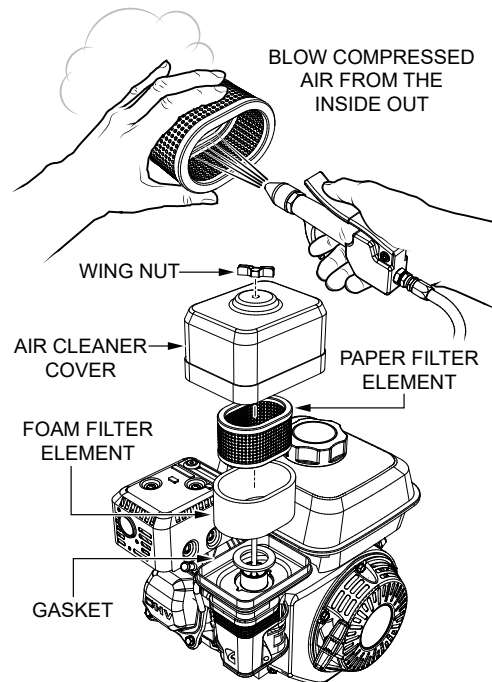

Figure 35. Engine Air Cleaner
1. Remove the air cleaner cover and foam filter element as shown in Figure 35.
2. To remove dirt, tap the paper filter element (Figure 35) several times on a hard surface, or blow compressed air not exceeding 30 psi (207 kPa, 2.1 kgf/cm²) through the filter element from the air cleaner case side. **NEVER** brush off dirt. Brushing will force dirt into the fibers. Replace the paper filter element if it is excessively dirty.